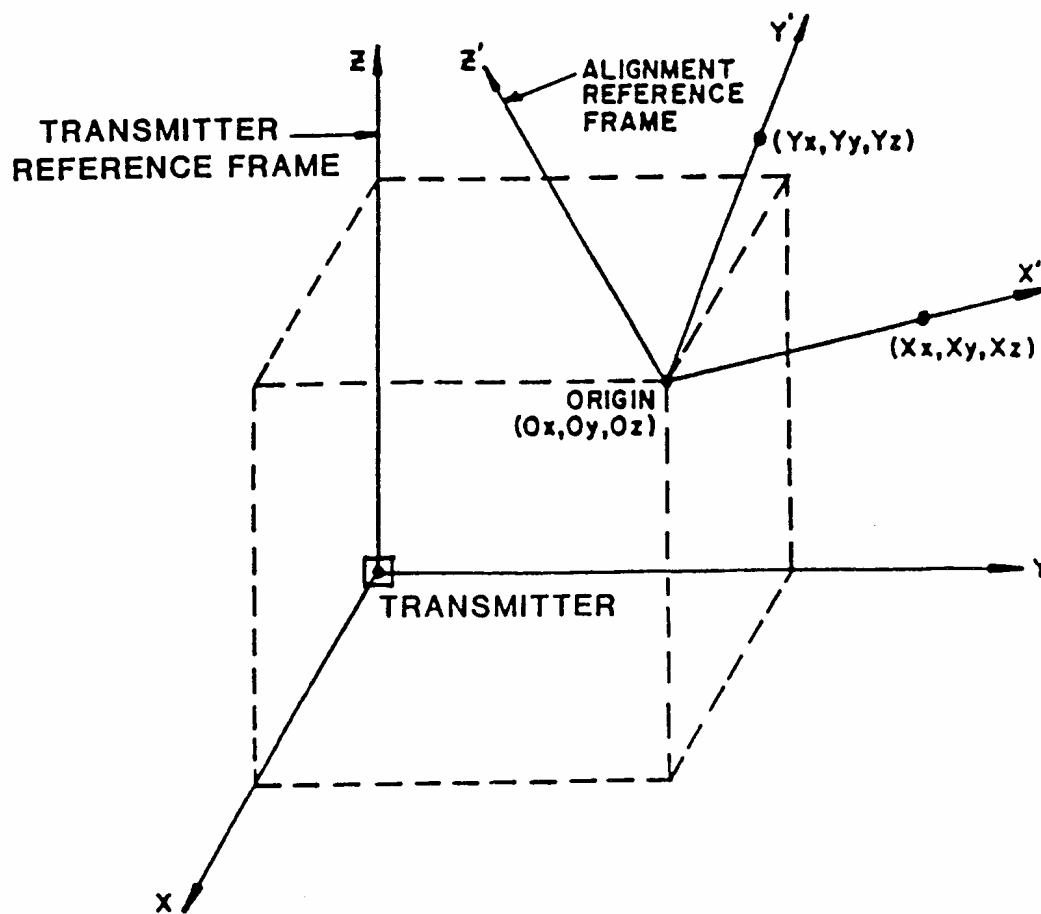

Figure 6.3A System Alignment
**Purpose:**      The alignment command does two things. It defines a reference frame to which all position and orientation output data is referred. In addition, it creates a new origin point where the X, Y, Z measurements would equal 0,0,0 if the receiver were placed there. See figure 6.3A on previous page. An example of where this command would be useful is a sloped test surface that the user wanted referenced to the transmitter. This would obtain congruence between the FASTRAK and the axes of the sloped surface.